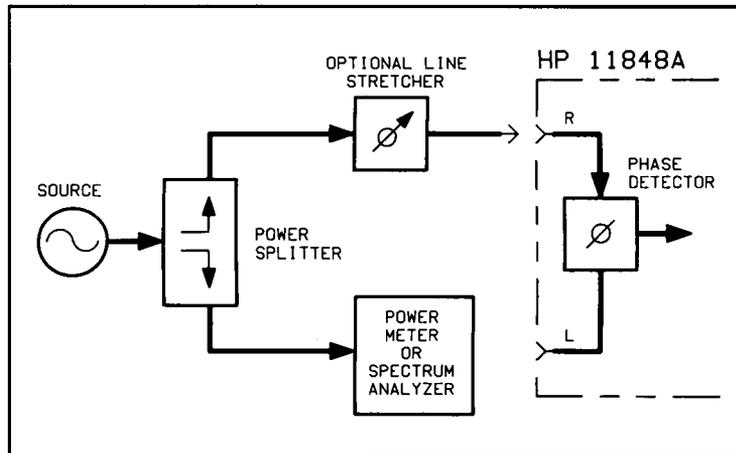

Figure 4-10. Measuring Power from Splitter
1. Connect circuit as per Figure 4-10, and tighten all connections.